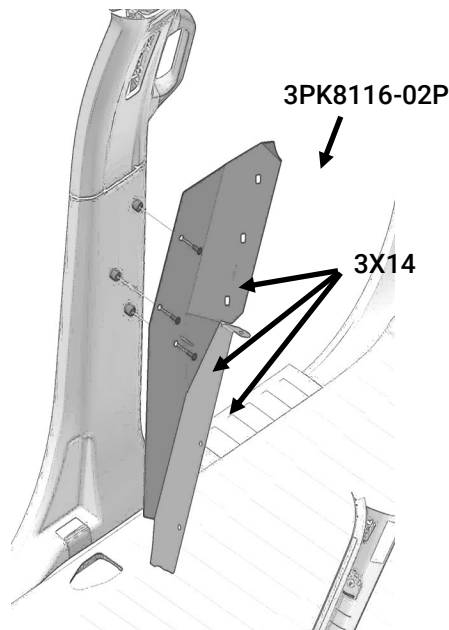

Fig. 2
- A. Locate passenger mounting plate [3PK8116-02P] aligning the (3) plate holes the (3) standoffs protruding through the B-pillar trim and loosely fasten with (3) 5/16-18 button head screws [3X149] (Figure 2).